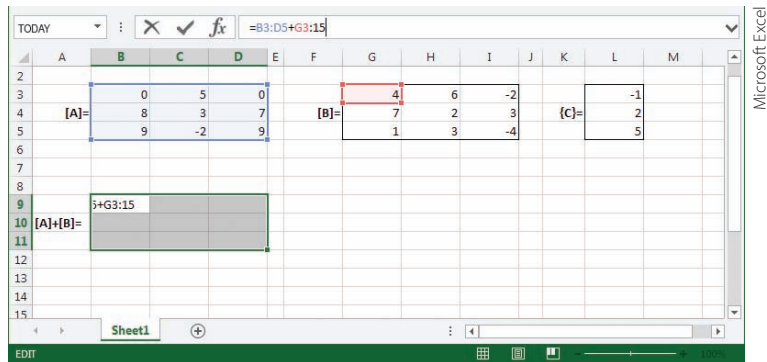

FIGURE 14.37
- In cell A10, type $[\mathbf{A}] + [\mathbf{B}] =$, and using the left mouse button, pick cells B9 through D11, as shown in Figure 14.37.